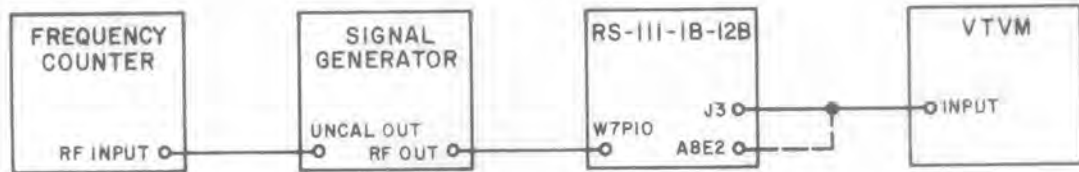

Figure 4-2. Test Setup, Discriminators Center Frequency Performance Test
- (1) Connect the equipment as shown in Figure 4-2.